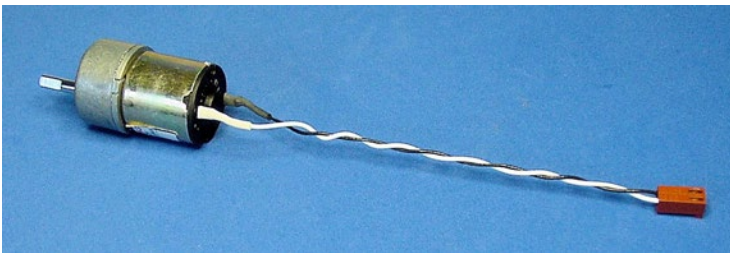

Figure 22-20. Motor with heat-shrink tubing protecting soldered terminals and twisted wire ending in KK connector
13. Twist the housing about ten times, so that the pair of wires twist together (see Figure 22-20). Not only does this prevent the wires from becoming tangled with other wires in the robot, but also it cancels out some of the electrical noise generated by the motors.